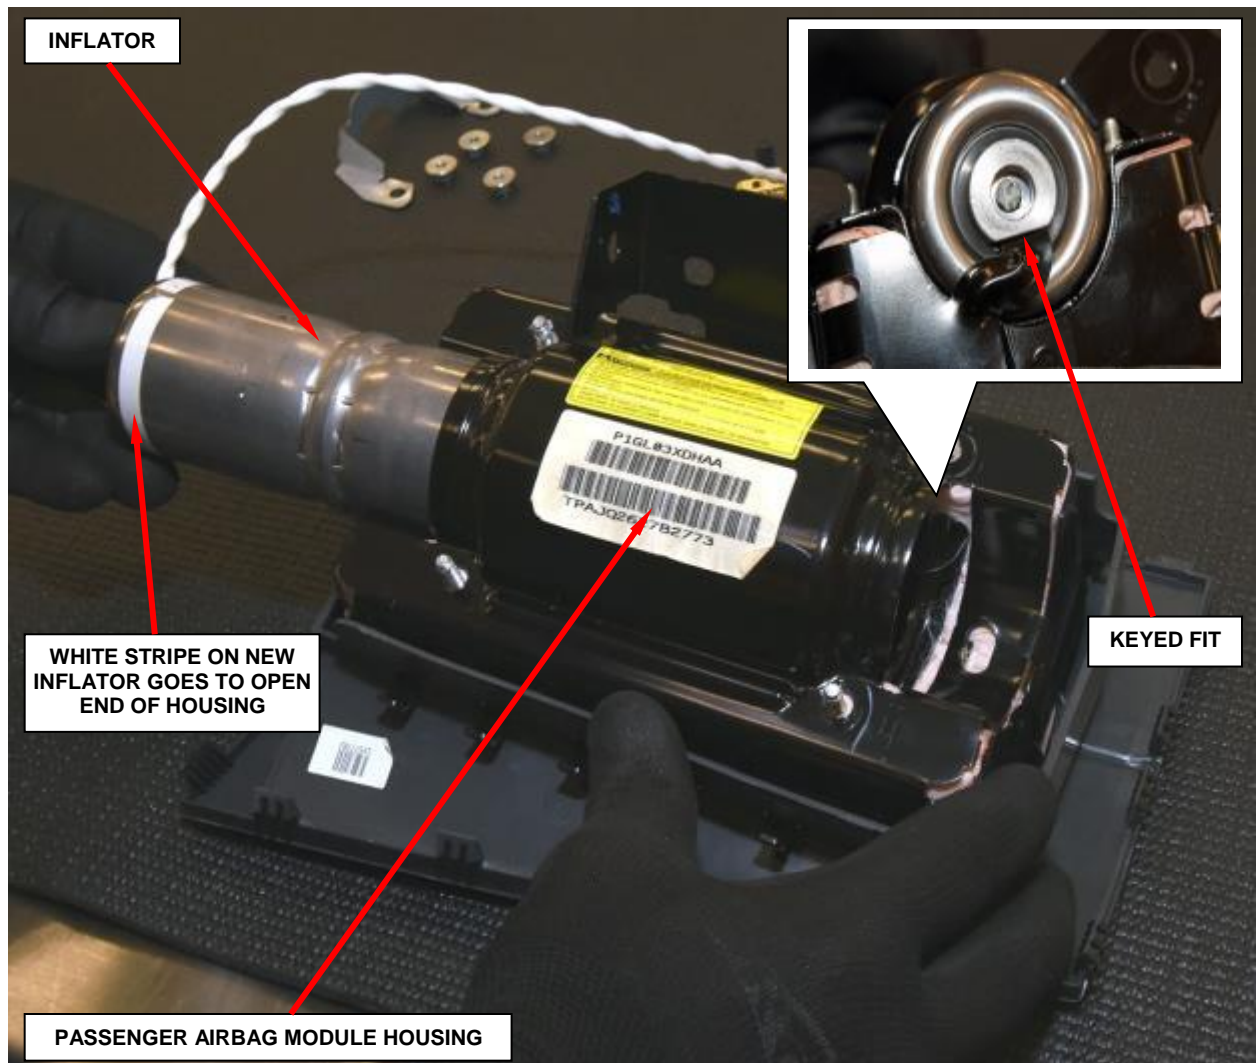

Figure 38 – Passenger Inflator Installation
- f. Slide the **NEW** inflator into the passenger airbag module housing. The keyed end is inserted first; therefore the white stripe on the **NEW** inflator will be located at the open end (Figure 38).
NOTE: The inflator is keyed to fit into the housing (Figure 38).